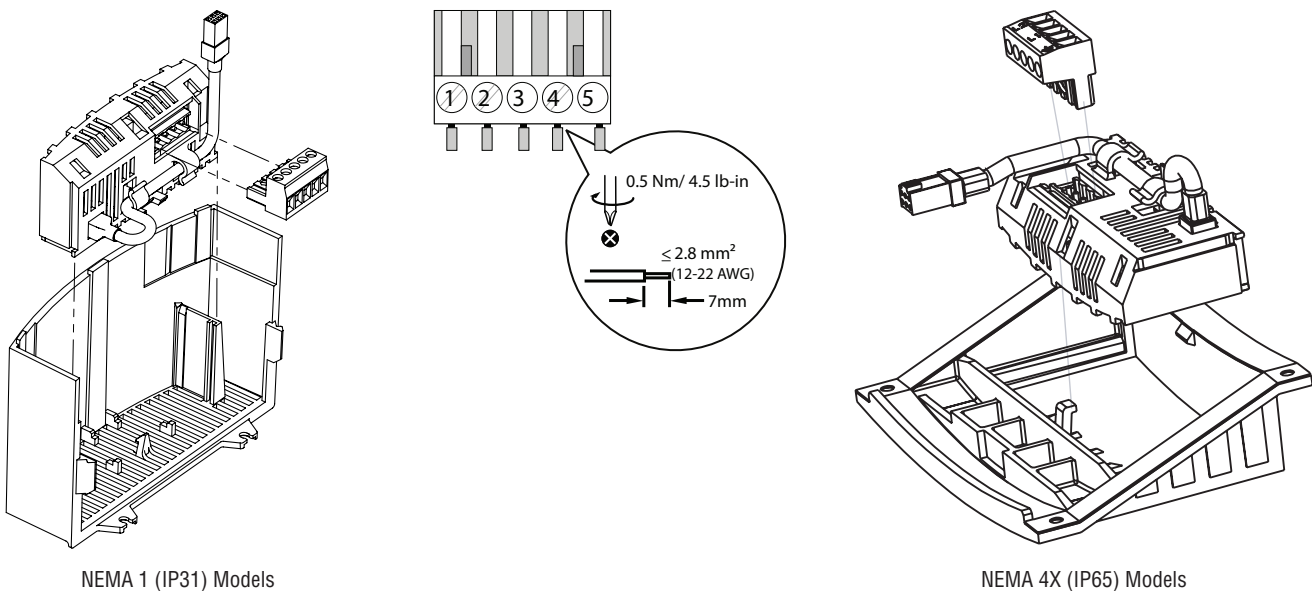

Figure 2: Installing the CANopen Module
2. Insert the CANopen option module in the terminal cover and securely “click” into position as illustrated in Figure 2.